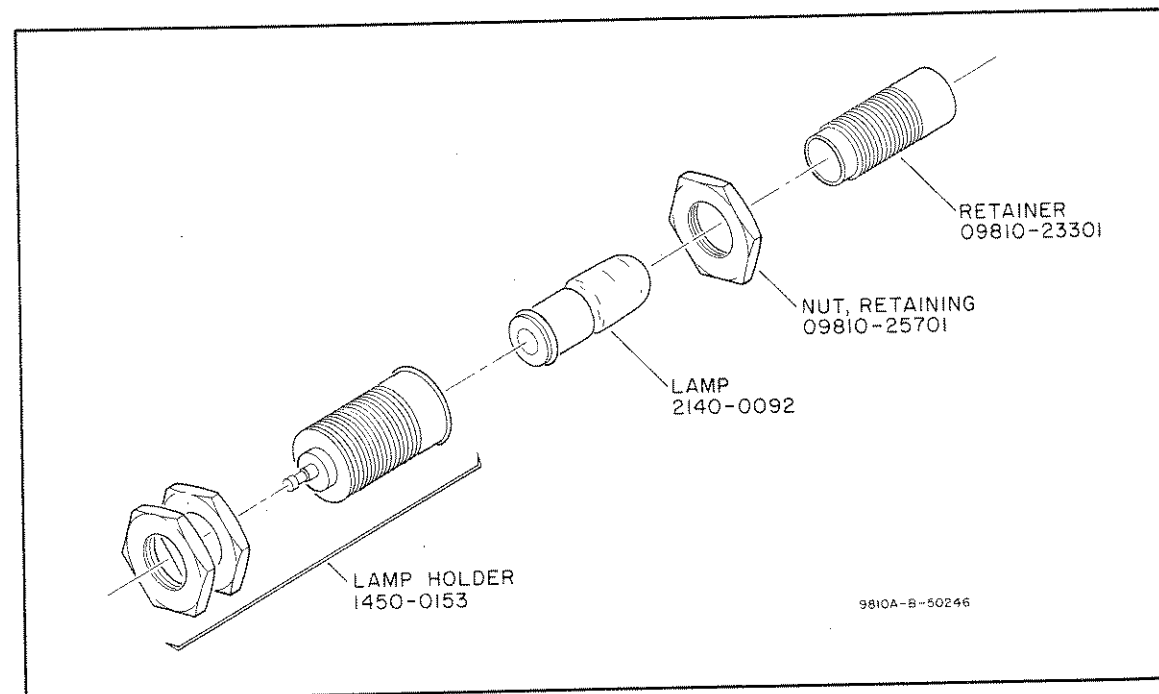

Figure 8-2. Lamp Replacement
- Loosen brass nut on the front (Lamp) end of the assembly with a $\frac{3}{16}$ " wrench. (See Figure 8-2.)